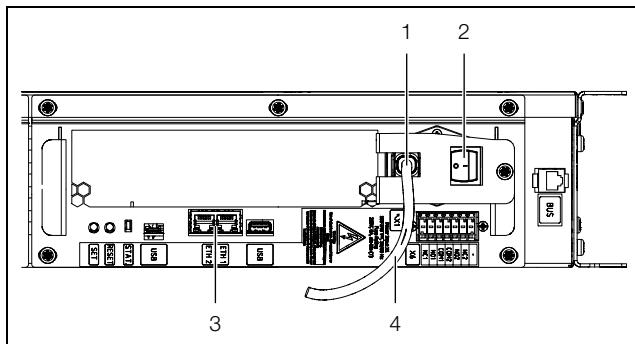

Fig. 15: Connections in the rear top area
- Using a network cable, connect the device to your computer via the Ethernet interface (fig. 15, item 3).